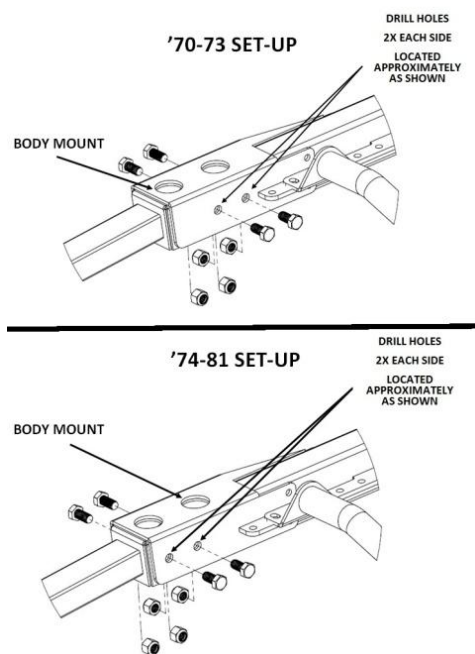

Figure 1. PRO-G IFS
2. Install the subframe connector at the front by either sliding over the factory subframe, or sliding into the Pro-G IFS. For RC-122, use holes in subframe connector as a guide to drill two holes on each side. For CF-202-WT, holes will need to be drilled as **shown in Figure 1**. Bolt securely in place using the ½ X 1" long bolts and nuts.